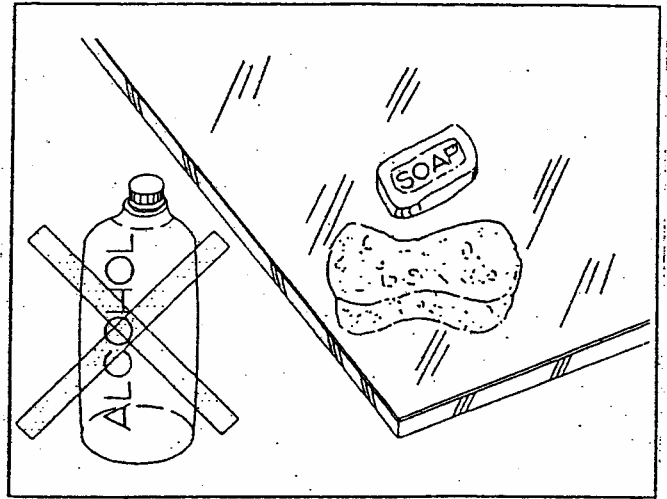

Figure 23
2. Inspect the surface for scratches. If there are no scratches, clean the surface with a soft white 100% cotton cloth or towel or a sponge and mild soap and water. A non-ammoniated spray glass cleaner may also be used. **DO NOT USE DENATURATED ALCOHOL OR AN ABRASIVE PAD.** (Refer to Cleaning Care on page 20.) See Figure 23.